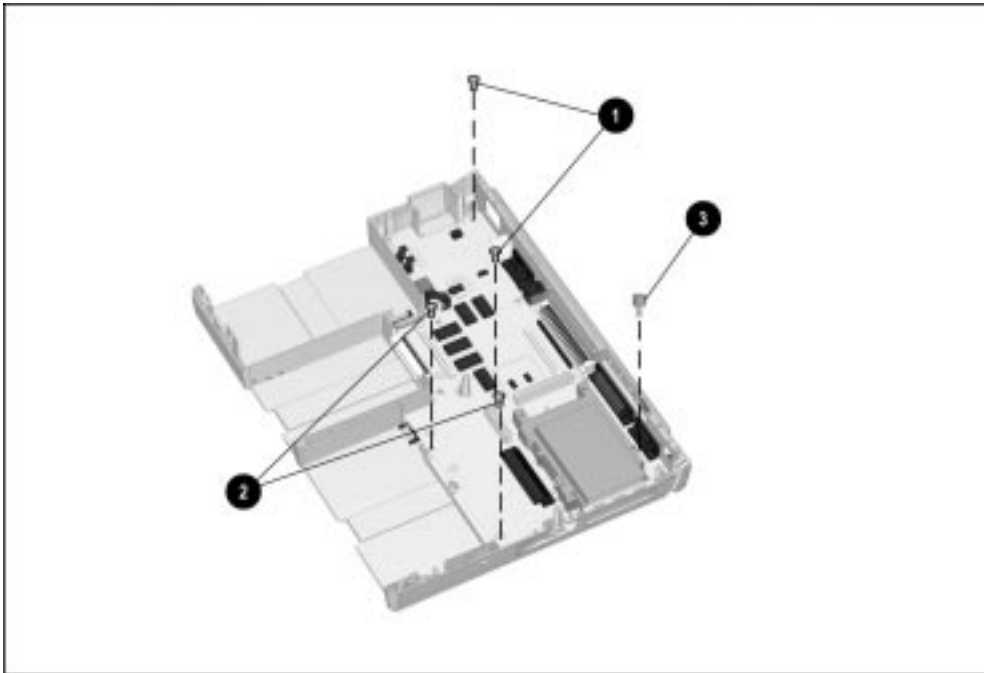

Figure 5-77. Removing the System Board Screws
17. Remove the four screws ❶ and ❷ that secure the system board to the computer base assembly (Figure 5-77).
18. **NOTE:** Two of the four screws removed in this step are flathead screws ❷. When installing the system board, these flathead screws must be installed in the front/right section of the system board.
19. Remove the standoff ❸ that secures the system board to the computer base.